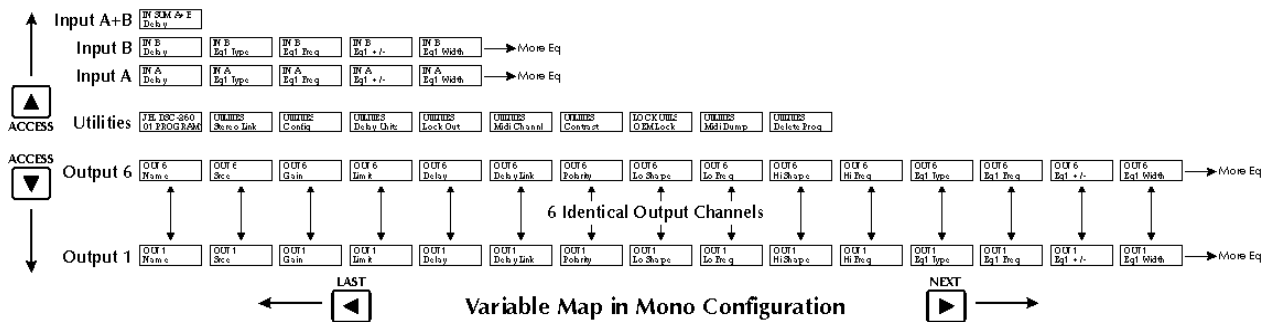

Figure 5 DSC260 Programming Grid
4.6 LCD Display Screen: This 2 x 16 character LCD displays all required programming information. It is, in effect, a window into a large grid of adjustable parameters that moves from row to row and column to column. Figure 5 below as well as the back of this manual is a diagram of the programming grid. Upon turn on, the software revision will also appear briefly. The bottom line shows the program number and name of the stored program. An asterisk indicates that a program has been edited since the last store. This shown in the top right of the LCD display on all screens except the default.
4.7 Access Buttons: These four buttons step the display through input, output and system variables which are grouped in a grid as shown below in figure 5. All inputs and outputs are configured in rows with their respective parameters in columns. There are rows for Input A, Input B, Input Sum A+B, and Outputs 1 through Output 6. In addition, a row of Utility Control parameters is included. The **Up** and **Down** Access keys move the user between rows. The **Next** and **Last** keys step the user through the variables within the currently selected row. See section 9.0 on ASSIGNABLE EQ for the use of **Next** and **Last** to assign EQ to a channel.